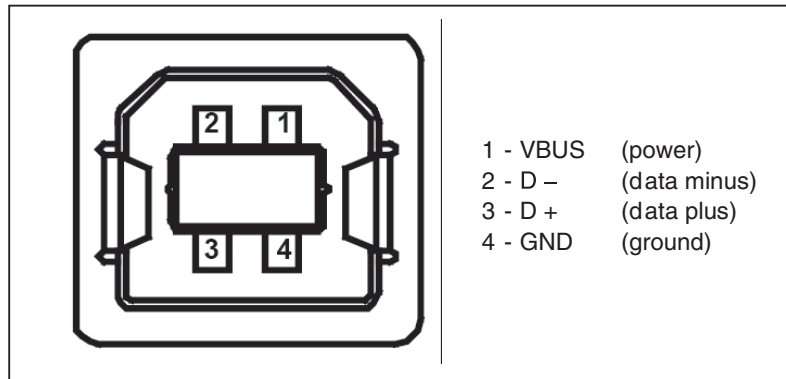

Figure 3-6. Pin Assignment of USB Interface (Series B Receptacle)
The instrument is optionally equipped with USB interface. The connector to USB interface (USB series “B” receptacle) is provided at the rear of the instrument, see Figure 3-6. A controller for remote control can be connected via the interface. Connection is made using USB A to USB B cable (also called USB A/B cable or series “A” plug to series “B” plug cable).
- Bidirectional USB data transmission (see Figure 3-6)